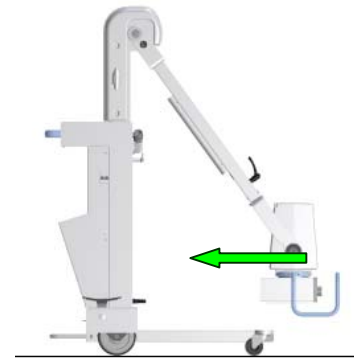

Figure 6
- Move downwards the arm by using the handles and by keeping in vertical position the monobloc-collimator; when the parking position is reached (see Figure 6) rotate and engage the safety lock.